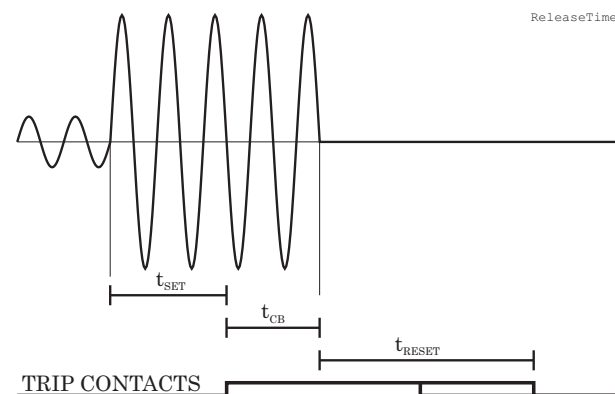

Figure 2.3-2. Reset time is the time it takes the trip or start relay contacts to open after the fault has been cleared.
Figure 2.3-2 shows an example of reset time i.e. release delay, when the relay is clearing an overcurrent fault. When the relay's trip contacts are closed the circuit breaker (CB) starts to open. After the CB contacts are open the fault current will still flow through an arc between the opened contacts. The current is finally cut off when the arc extinguishes at the next zero crossing of the current. This is the start moment of the reset delay. After the reset delay the trip contacts and start contact are opened. The reset time varies from fault to fault depending on the fault size. After a big fault the time is longer. The reset time also depends on the specific protection stage. The maximum reset time for each stage is specified in chapter 9.3. For most stages it is less than 95 ms.